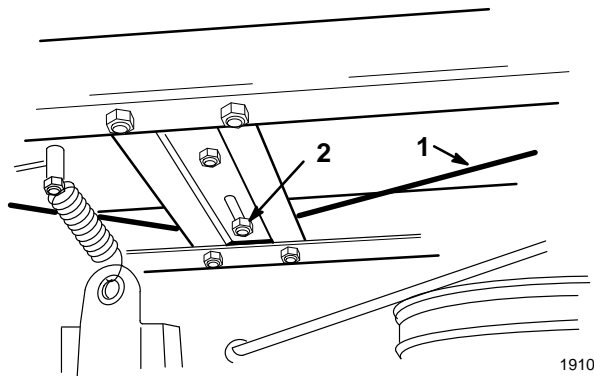

Figure 10
2. Check the cable tension. Cable should be taught and have 1/2 inch movement with slight pressure applied (Fig. 10).
4. To adjust the cable tension loosen the front cable guide, located on tractor brace above deck pulley. Slide guide sideways as required for proper tension (Fig. 10).